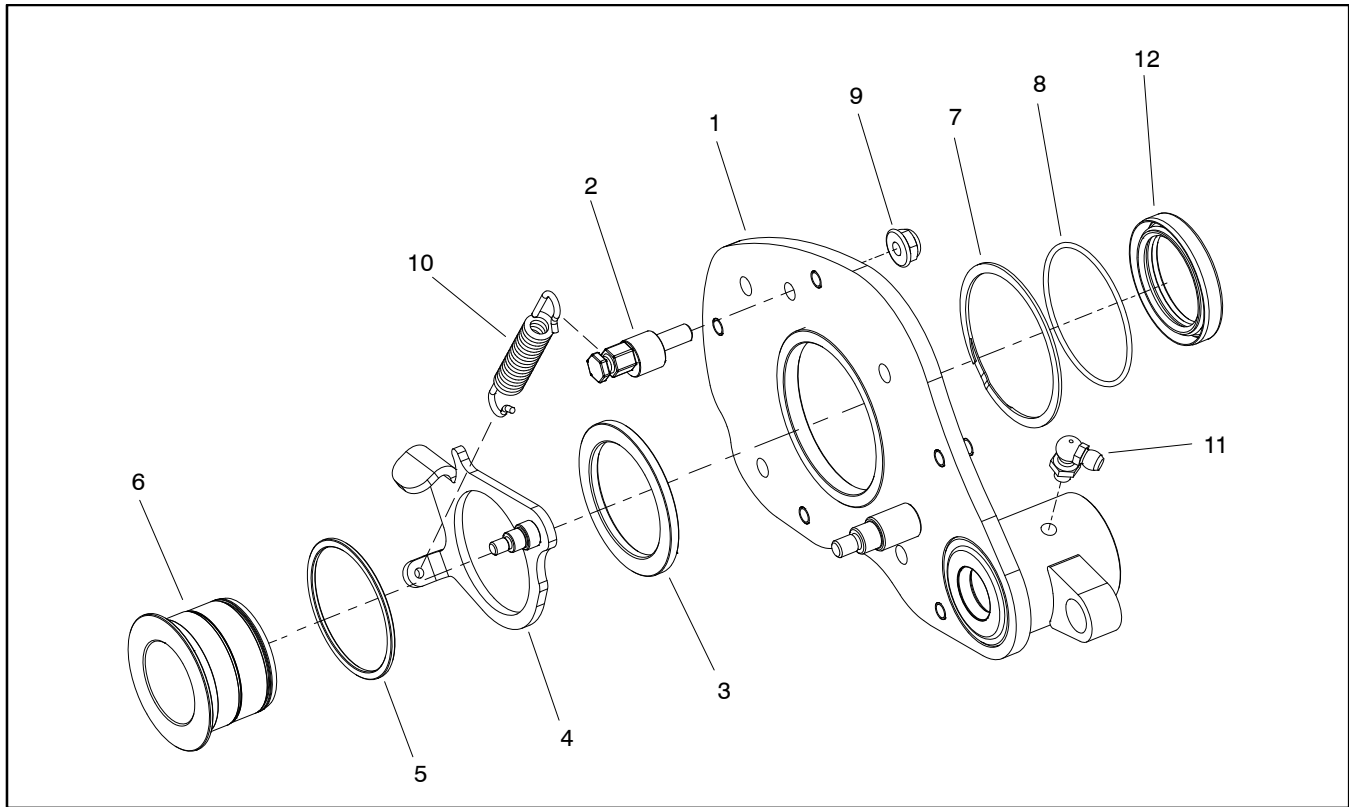
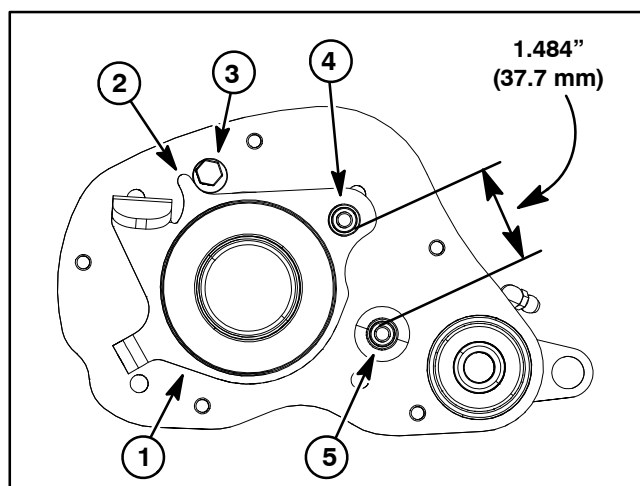

Figure 26
Figure 28
### Disassembly (Fig. 26)
6. Using Figure 26 as a guide, remove idler components from RH drive plate as needed.
### Assembly (Fig. 26)
1. Assemble idler components to RH drive plate using Figure 26 as a guide. Make sure that retaining ring (item 7) is fully seated in groove of reel hub after assembly.
**NOTE:** When properly installed, the idler bracket (item 4) should pivot freely on reel hub.
3. Check adjustment of adjustment cam (Fig. 28):